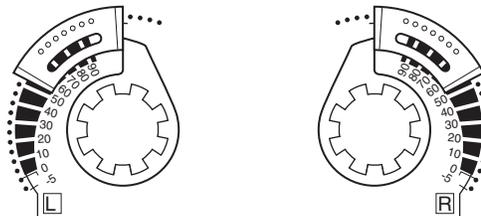

Figure-8 Positioning the Rotation Limiter.
- Place the AM-689 rotation limiter on the actuator so that it either makes contact with, or is as close as possible to, the edge of the indicator. See Figure-8.